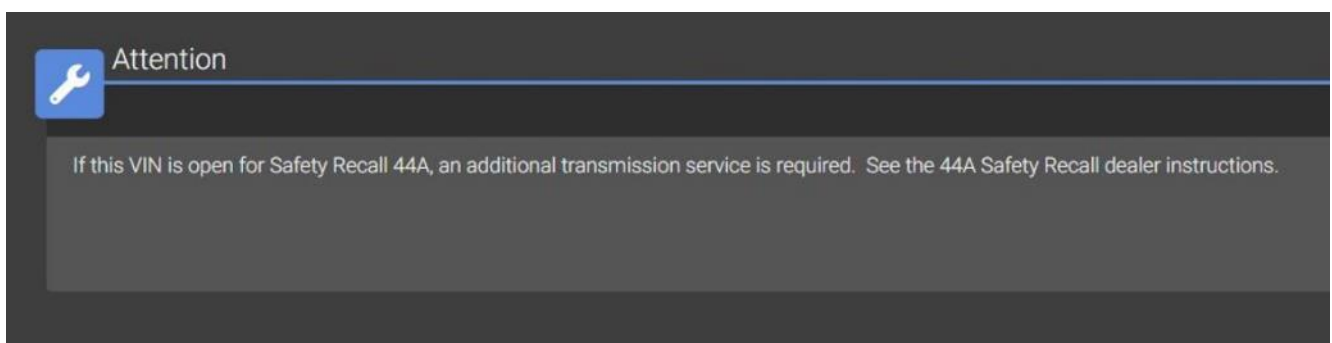

**Figure 1 – wiTECH Popup Message**
7. Did a wiTECH message pop-up appear stating “**If this VIN is open for Safety Recall 44A, an additional transmission service is required. See the 44A Safety Recall dealer instructions.**”? (Figure 1)
15. Did a wiTECH message pop-up previously appear (Step 7 Figure 1) stating “**If this VIN is open for Safety Recall 44A, an additional transmission service is required. See the 44A Safety Recall dealer instructions.**”?